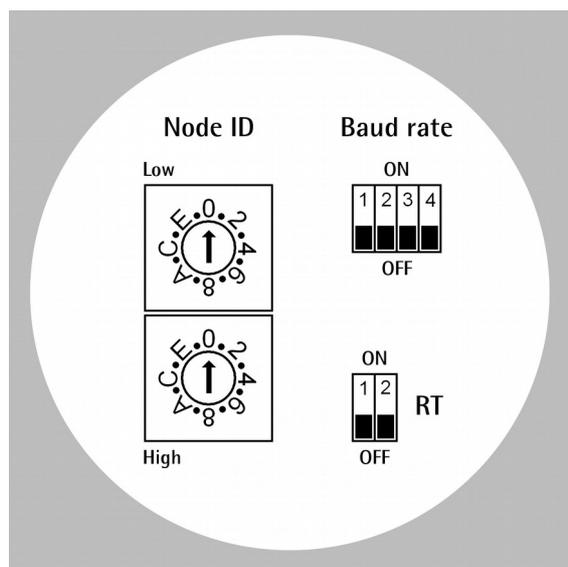

Figure 7: DIP switches
4.4.1 Setting the node address: Node ID (Figure 7)
#### 4.4.2 Setting the Baud rate and Parity bit (Figure 7)
### 4.4.3 RT bus termination (Figure 7)
To configure the serial port of the RD6 device refer to the "4.4.2 Setting the Baud rate and Parity bit (Figure 7)" section on page 22.
Then set the node address of the device the personal computer is connected to through the **Slave settings** box (default value for all RD6-Modbus positioning units = 1). To set the node address of the RD6 device refer to the "4.4.1 Setting the node address: Node ID (Figure 7)" section on page 21.